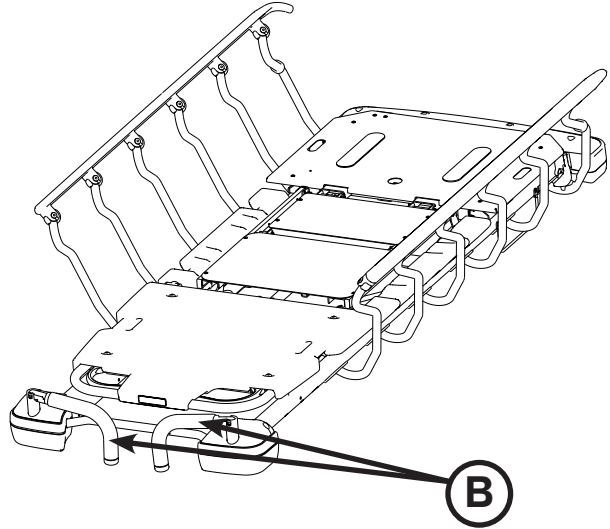

Figure 9.2: Head End Push Handles Stored
To store the push handles, lift the handles (B) up and pivot them down to store in the handle rests (Figure 9.2).